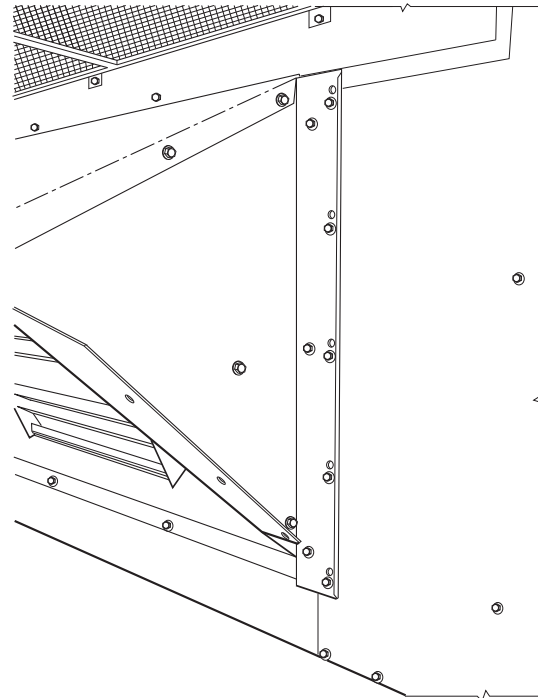

Fig. 17 — Blockoff and Hood Positioning
5. Install the side blockoffs using the screws included (no. 14-10 x $\frac{7}{8}$ -in.). Be sure to properly position the hood. See Fig. 17.